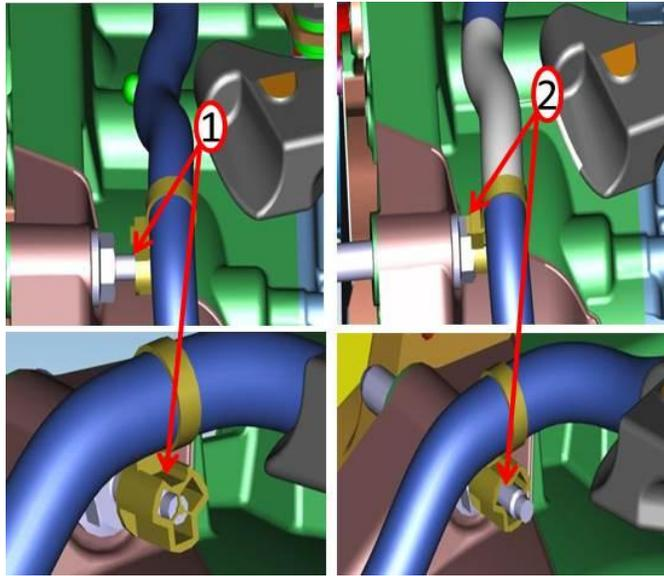
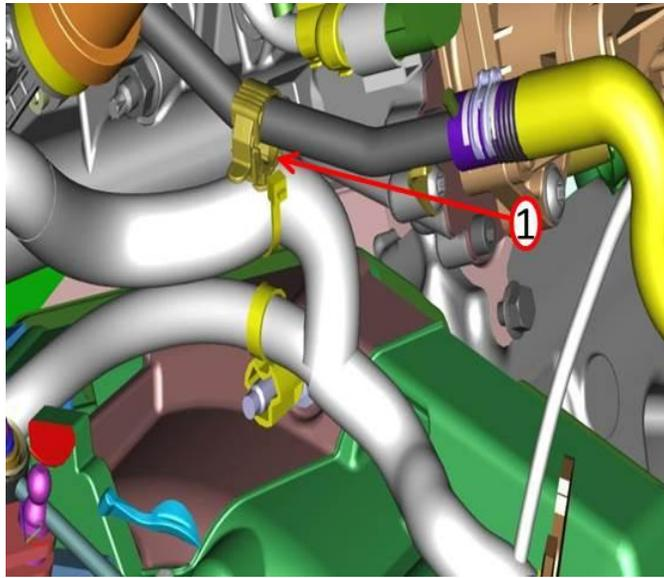

Fig. 1 Clip Location
Fig. 2 Locking C clip
1. ****This step applies to Sales Code NBC only.**** Inspect the existing clip to be fully seated. The existing clip has a stop/cap that currently keeps clip at top of stud. This clip must be pushed in completely onto the stud past the stop/cap. This can be attained by little force to break the stop/cap plastic stop (Fig. 1) & make sure the locking C clip is secured (Fig. 2).